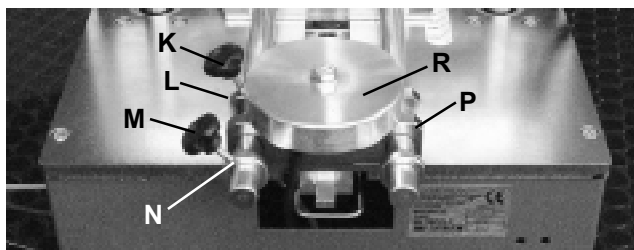
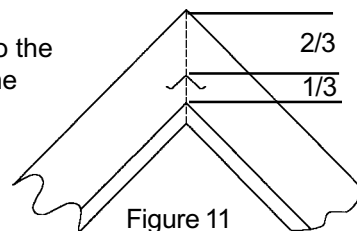

Figure 10
Figure 11
4. Place the left piece of moulding against the left fence and push the end against the right fence. Slide the **Fence** to align the slot in the **Hammer Block** for the first **Nail** about 1/3 the frame width from the rabbet corner as shown in Figure 11. Loosen the **Locking Knob (K)** in Figure 10; slide **Collar (L)** against the front of the **Slide Block (P)** and tighten **Locking Knob (K)**. Now slide the fence toward the front so the second **Nail** will be inserted no closer than 3/16" from the corner of the moulding to prevent splitting the wood. Loosen the **Locking Knob (M)**; slide the **Collar (N)** against the back of the **Slide Block (P)** and tighten the **Locking Knob (M)**.